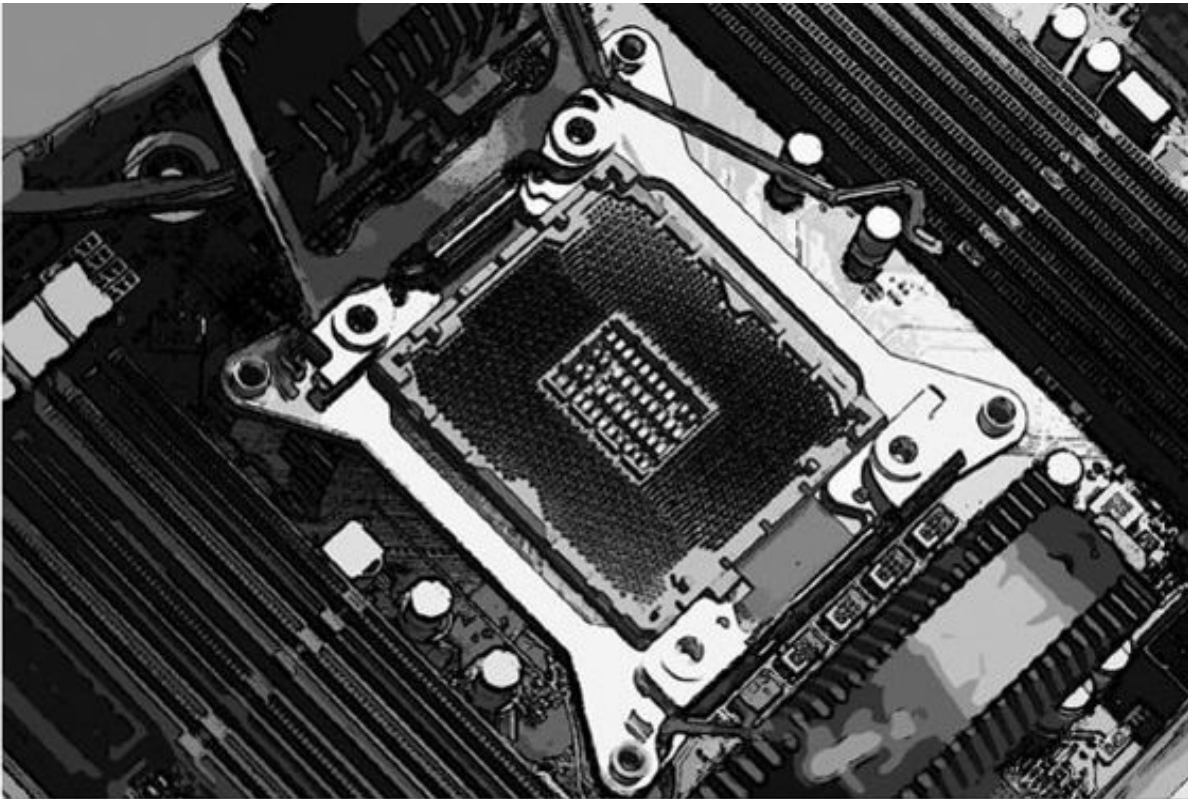

FIGURE 9.8 LGA2011 socket. (Courtesy of Intel[®].)
Another use for these 19 pins is placing data into a different location than where the program instructions are located in the memory. The same 19 pins are used for retrieving data out of the memory as well. As each pin has a state of either 0 or 1, if all 19 of them are used, there are $2^{19} = 524,288$ different numbers possible. This means $\frac{1}{2}$ MB of memory can be addressed by this chip. It is a small amount for a computer today, but 128 times more than the 4096 locations a 4004 could select. By contrast, the LGA2011 processor in Fig. 9.8 can address 34,359,738,368 bytes which is 32 gigabytes (GB) of memory. It is 65,536 times what the Z-80180 can handle and over 8 million times as much as the 4004.